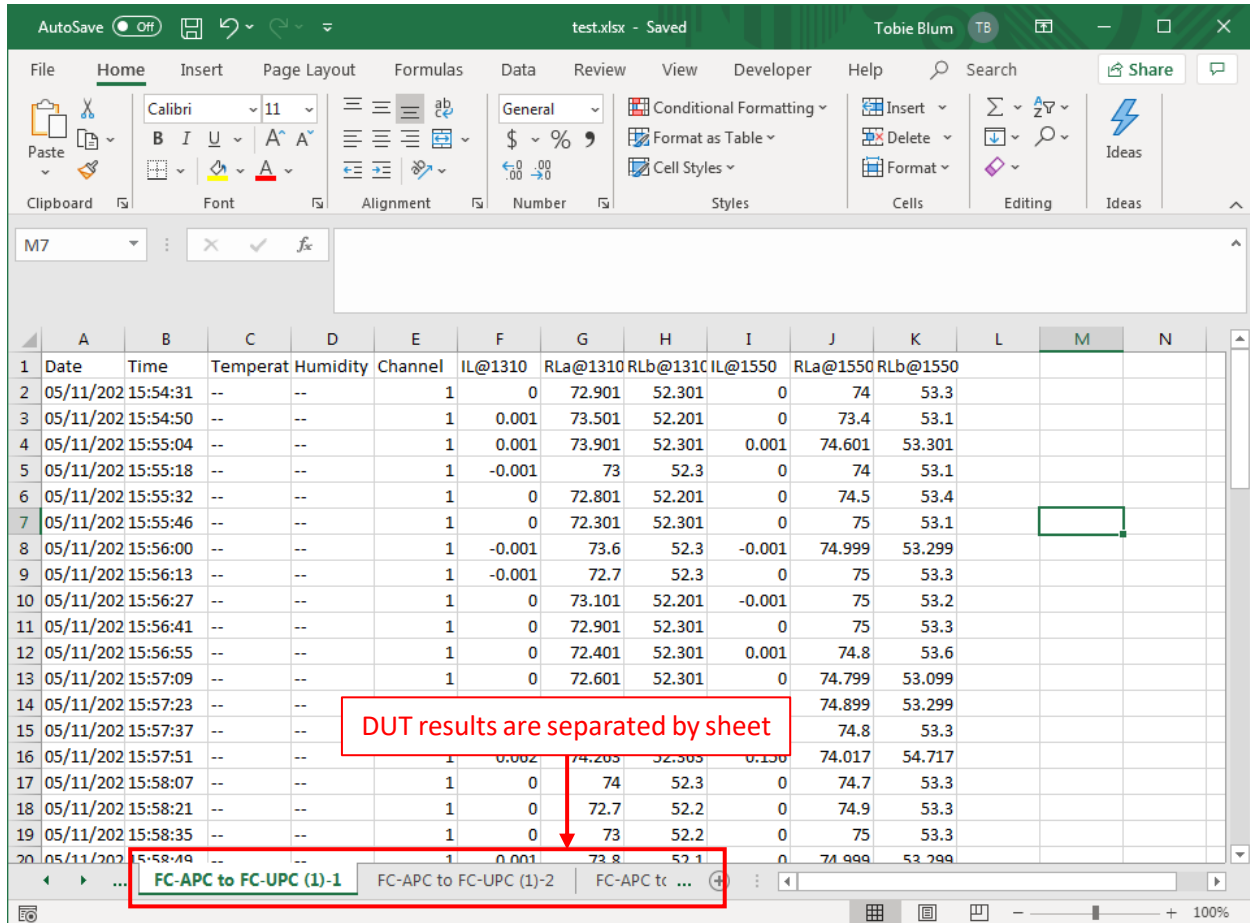

Figure 43: Results exported to Excel
- Click on  to export data to Excel (Figure 43).